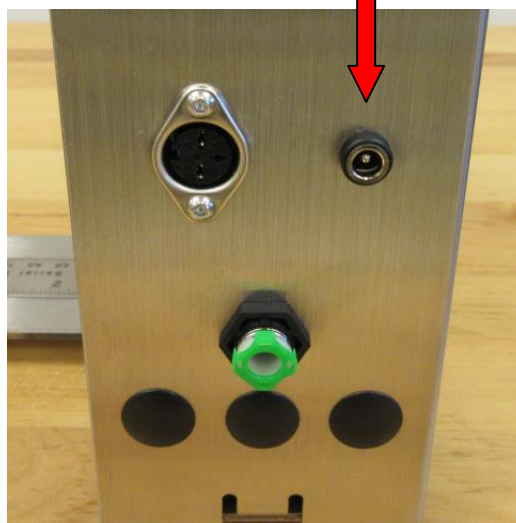

Figure 2.2.1
- The power supply jack is located on the rear of the cover. *Figure 2.2.1*